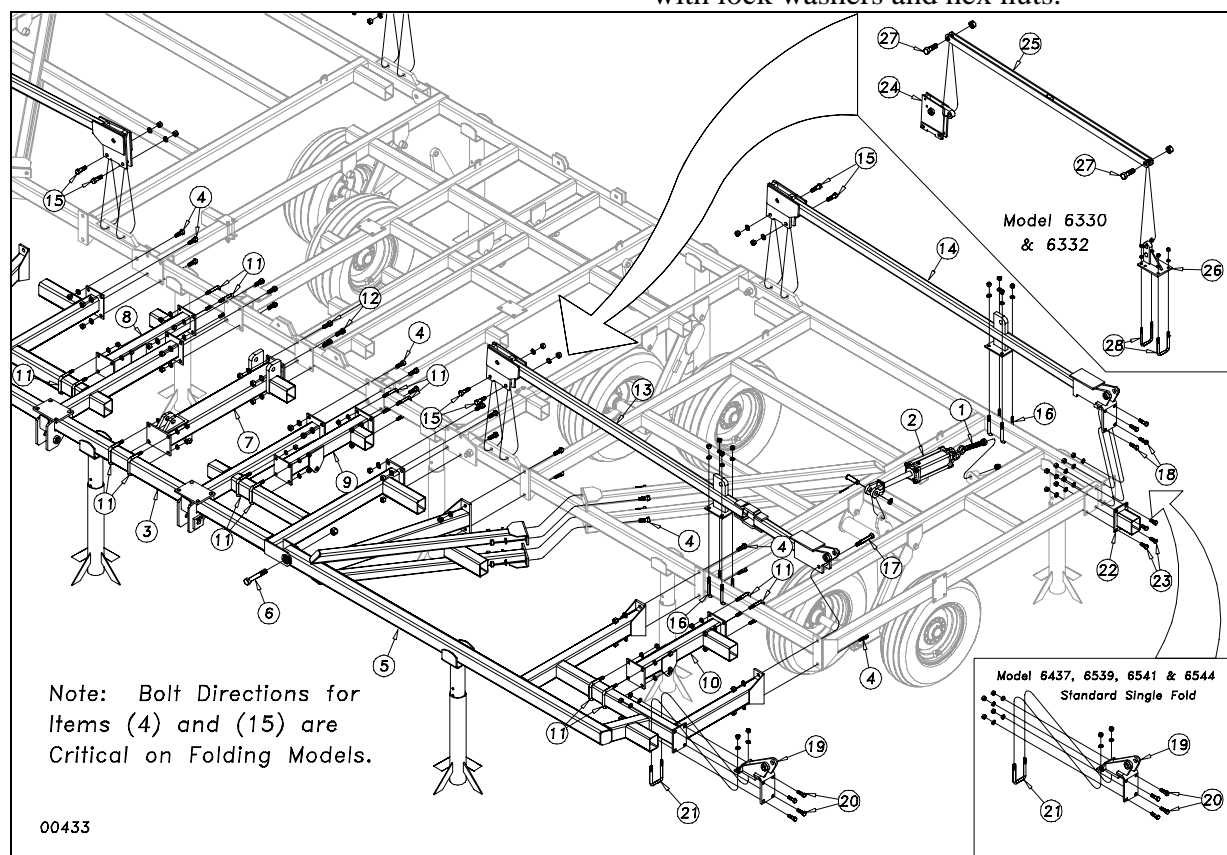

Figure 3
Install the 1 x 7 1/2 eye bolt (1) Figure 3, in the mounting bracket at the back of the wing with a 1" jam nut on each side of the bracket. Install the 3 1/4 x 8 rephasing wing cylinder (2) between the eyebolt and the lever on the wheel bracket. Secure the cylinder with 1 x 3 clevis pins, 1" machine washer and 3/16 x 2 cotter pin.